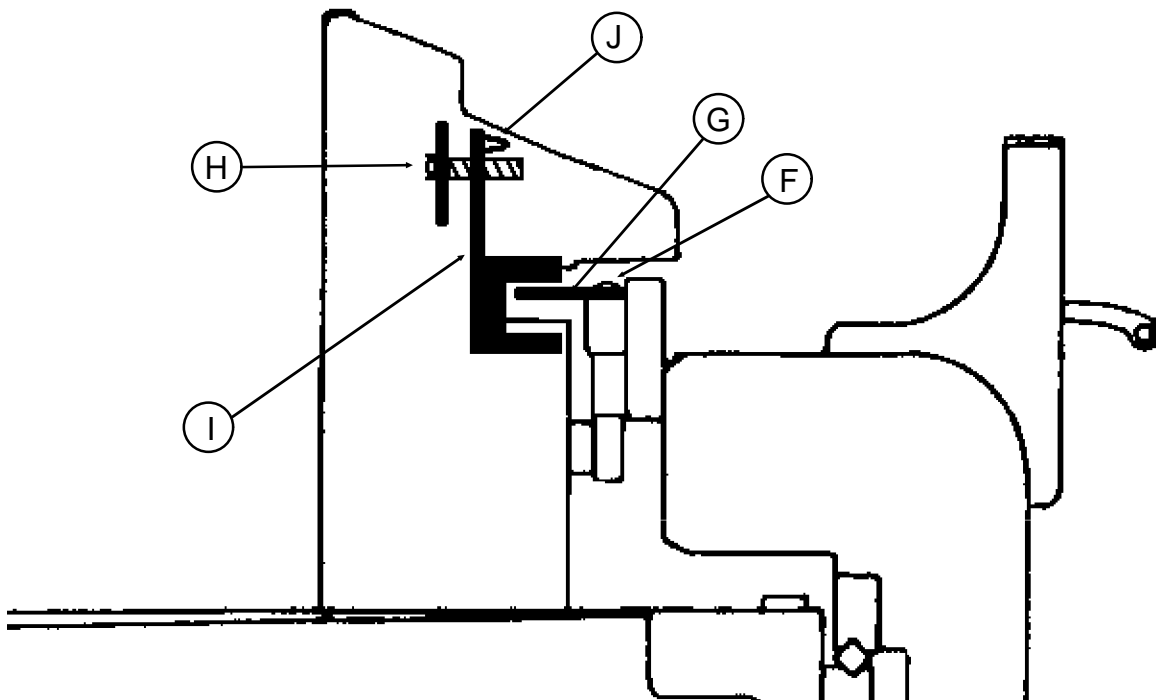

Figure 2
7. Remove the two Button Head Screws (Figure 2-F) holding the Encoder Glass (Figure 2-G) in place.
12. Slightly loosen the two Cap Head Screws (Figure 2-H) holding the Color Change Board (Figure 2-I) in place.
- B. The Red LED (Figure 2-J) is on.